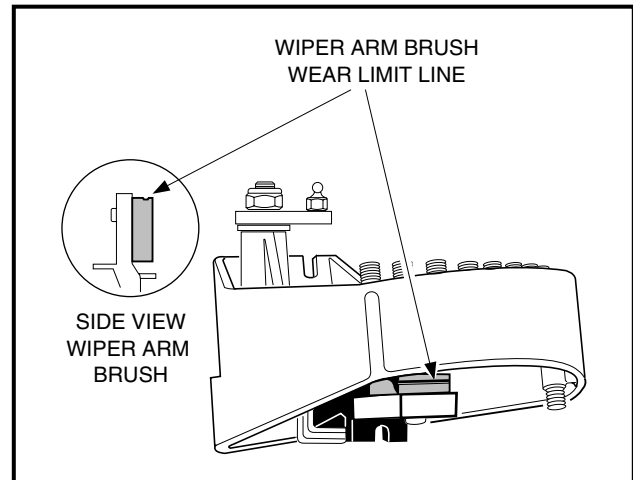

Figure 12-8 Wiper Arm Brush Wear Limit Line
**NOTE:** If the wiper switch arm brush is worn to or beyond the wear limit line, it should be replaced (Figure 12-8, Page 12-9). If any of the fixed contacts are excessively worn, pitted, or burned, the entire wiper switch housing with fixed contacts must be replaced.